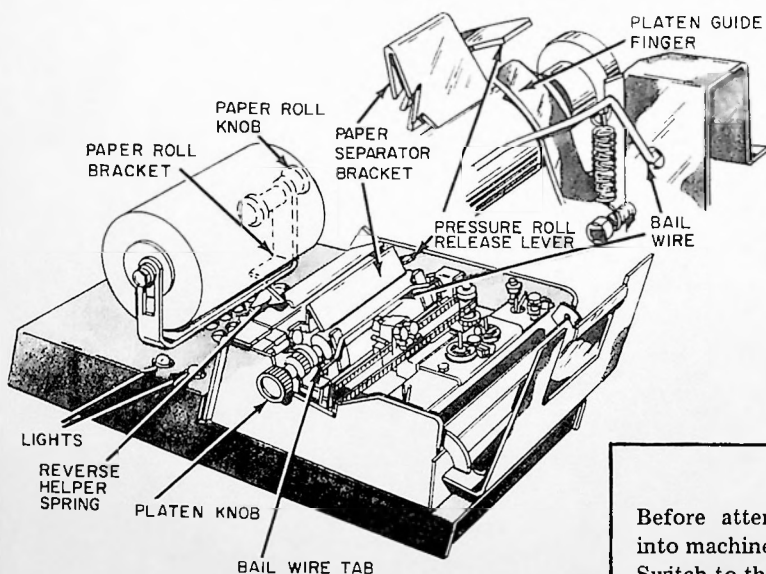
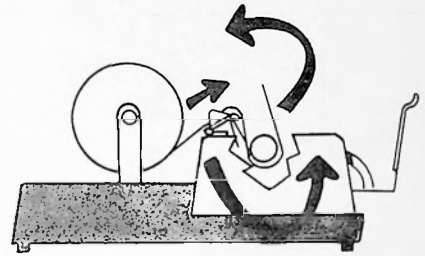

Figure 3-1. Typing Unit Component Identification
Figure 3-2. Paper Threading Diagram
The correct loading of paper into the machine is the single most important function which must be performed by the operator. Use Figure 3-1 to identify parts of the teleprinter which are referred to in the following procedure. Figure 3-2 illustrates a side view of the correctly-threaded paper path through the machine.
- (1) Remove the gum label or adhesive securing the starting edge of the paper roll.
- (2) Display a sufficient amount of paper spoiled by the adhesive and tear or cut it off with a pair of scissors. (A square cut makes initial insertion of paper easier.)
- (3) Pull outward on the paper roll knob and insert the paper roll into the paper roll bracket assembly so that the paper feeds from the underside of the roll. (See Figure 3-2.) Release the paper roll knob, allowing the bushing on the knob to settle into the paper roll core.
- (4) Raise the hinged lid of the front cover and pull forward on the bail wire tab, located on the left side of the bail wire (See Figure 3-1.), to move the bail wire away from the platen.
- (5) Pass the starting edge of the paper roll over the hinged Reverse Helper Spring assembly and insert it into the opening between the Separator Bracket and the upper hex tie rod. (*Insert paper as far as it will go without wrinkling.*)
- (6) Rotate the platen knob toward the rear of the unit to advance the paper around the platen and back over the Separator Bracket. If the paper is slightly off-center, depress the Pressure Roll Release Lever (See Figure 3-1.) and center the paper manually.
- (7) Return the bail wire to its original position and close the hinged lid.
- (1) Gently pull forward on the Bail Wire Tab (Shown in Figure 3-1.) to move the bail wire away from the platen.